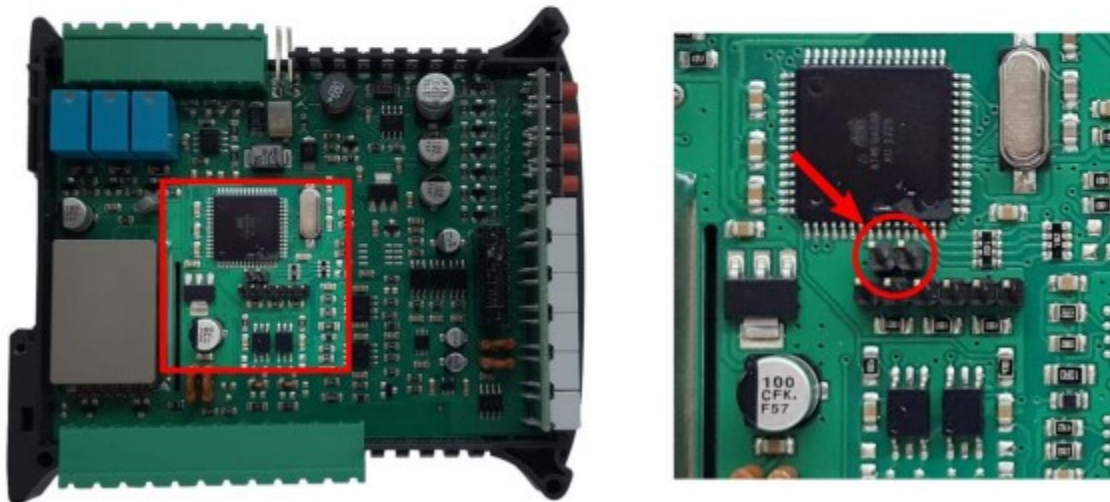

Figure 2-5. Jumper Location
The SCT-20 is sealed with a self-destructive adhesive label (PN 162881) placed over the seam between the two halves of the indicator. The seal prevents the top and bottom half from being separated and prohibits access to the jumper as shown in Figure 2-5 on page 18 from being moved.
- For Legal for Trade applications, the jumper will need to be removed before sealing the SCT-20. See Figure 2-5 for the jumper location.